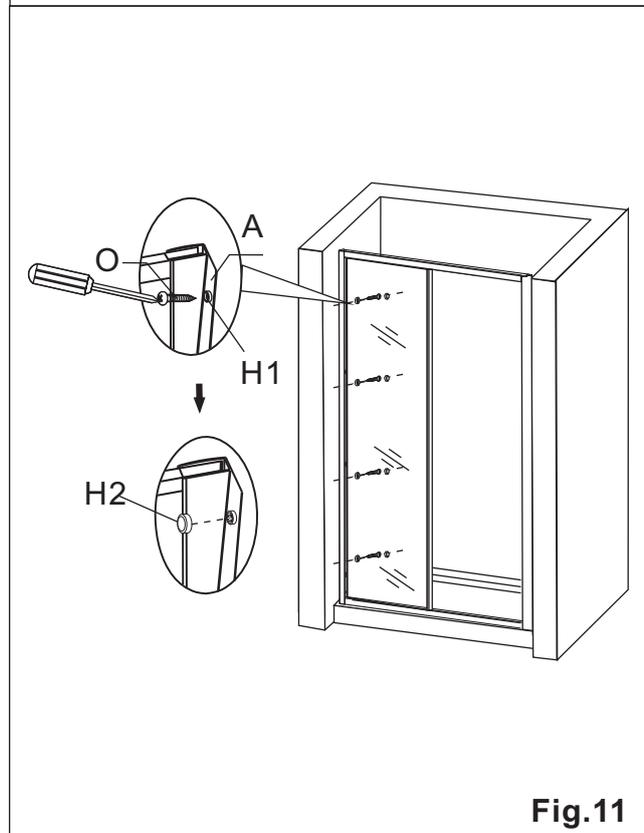

Fig.11
11. Secure the wall profile to the wall, using screw ST4x30mm (F) and screw cap washer (C1). Cover them with screw caps (C2). See **Fig.11**.